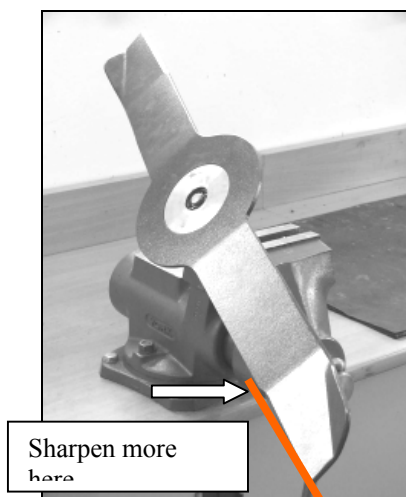

Fig. 59
- When the rotating blade is no longer horizontal sharpen the heavier side of the blade (Fig. 59)